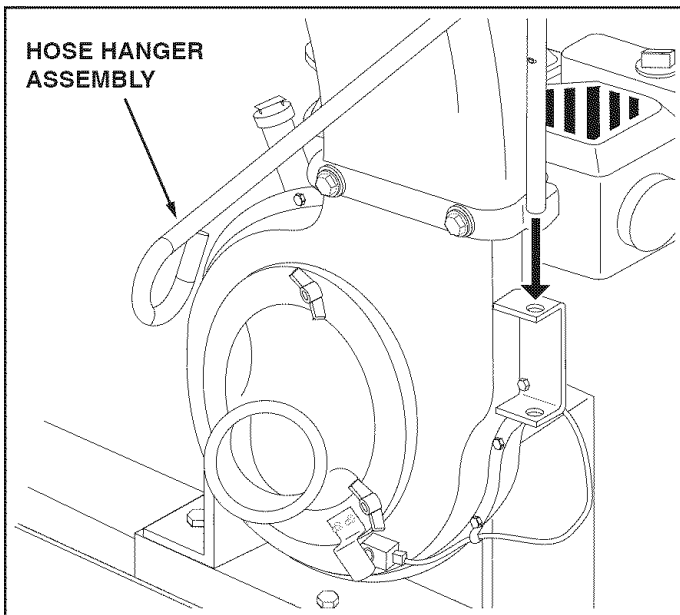

FIGURE 10
13. Place the hose hanger rod assembly down into the hose hanger bracket on the impeller housing assembly. See figure 10.